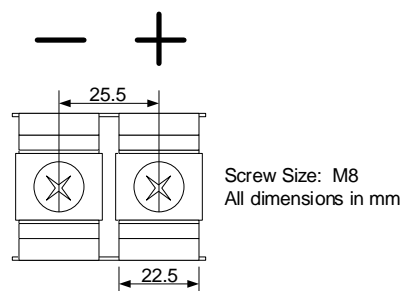

Figure 11 - DC Terminal Block Connections
- Connect the negative and positive cables to the DC terminal block as shown in Figure 11. Connections should be tightened to a specified torque of 5.7 Nm (50 in-lb) +/- 5%.